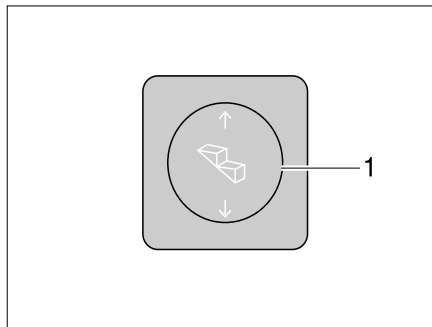

Fig. 8 Operating switch entrance step
- Press the rocker switch (Fig. 8,1) down until the entrance step has extended completely.
- Press the rocker switch (Fig. 8,1) up until the entrance step has retracted completely.